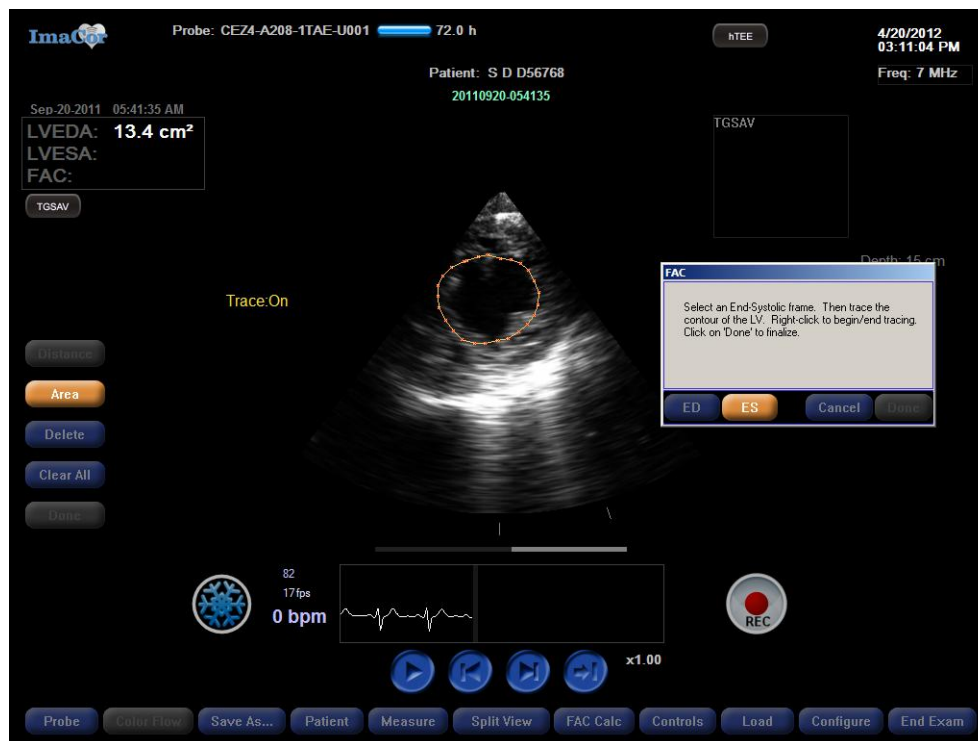

Fig. 73 FAC calculation in Single View mode – end systolic identification and trace
- 3 Tap to set the first anchor point, then begin tracing. When you complete the trace, tap again to close the trace. The LVEDA value is displayed onscreen, as shown in Figure 73. For additional information on tracing, see “The Tracing Tool,” page 65.